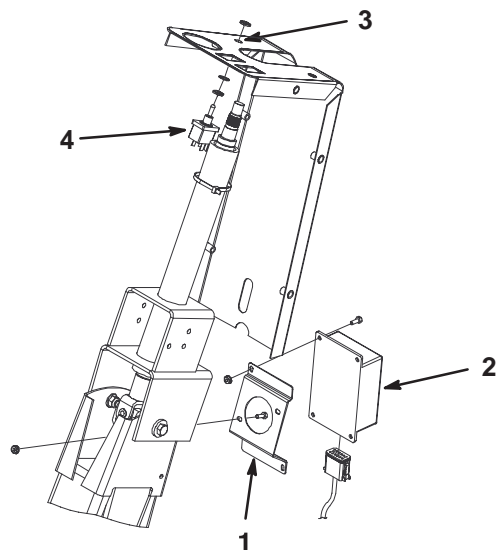

Figure 3
3. Mount the flasher bracket to the steering column mount with 2 slotted-head screws (#10-24 x 1/2 in.) and 2 Keps nuts (Fig. 3).
4. Mount the dual rate flasher to the bracket with 2 slotted-head screws (#10-24 x 1/2 in.) and 2 Keps nuts (Fig. 3).
5. Locate the pilot hole beneath the steering column decal on top of the steering tower cover (Fig. 3).
7. Mount the toggle switch to the steering tower cover with the washer and nuts supplied in the kit. Orient the keyway toward the rear of the machine (Fig. 3).